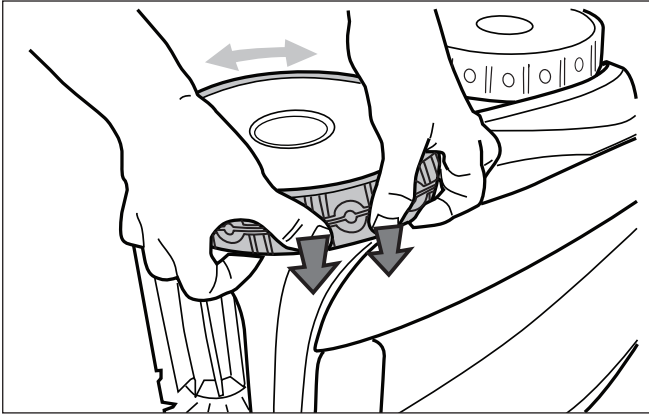

Figure 33. Push the Tire into Place on the Wheel
7. Push and position the rib of the inner side of the tire in the groove of the wheel (Figure 33). If needed, turn the wheel gently to help with installation.